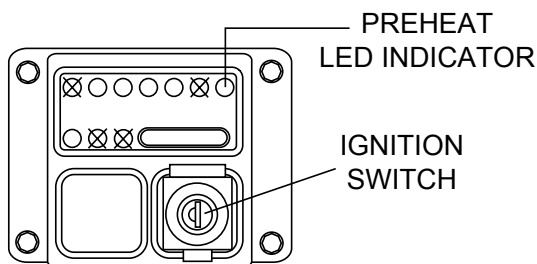

Figure 17. Ignition Switch
2. Insert the ignition key into the ignition key switch (Figure 17). Turn the ignition key clockwise one click to the **ON** position. The preheat indicator lamp will light. Wait for this indicator lamp to go **OFF**. When the indicator lamp goes **OFF**, the glow plugs have been preheated and the engine can now be started.